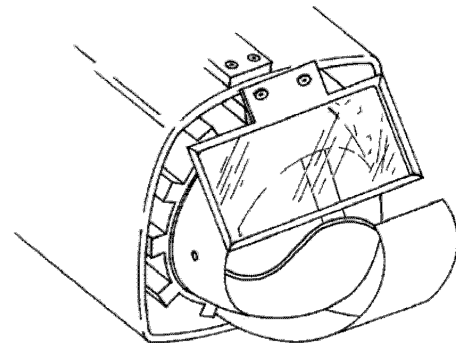

Figure 3. RG-10 Reflector
c. RG-10. Used for heating solder termination sleeves and shrinking small-diameter tubing. Has a 3/8 inch wide aperture and has to be ordered separately (Figure 3).
10. **OPERATION.** To operate infrared heating tool (Figure 3), proceed as follows: